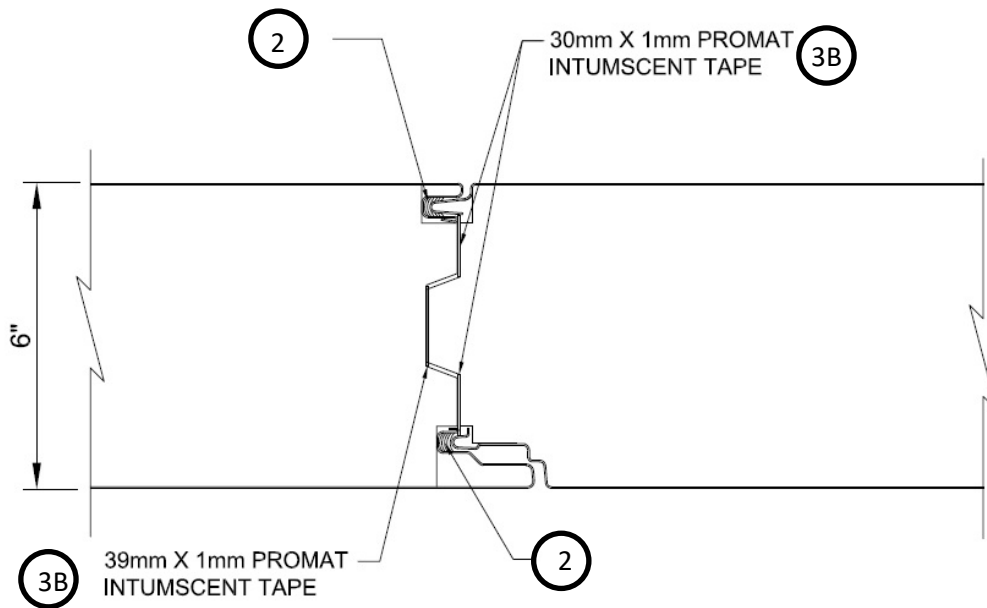

Figure 5: Promat Tape Interlocking Joint Promat Tape
- B. Option 2: Refer to **Figure 5**. Use Promat Promaseal®-LW intumescent tape with specified widths and locations.